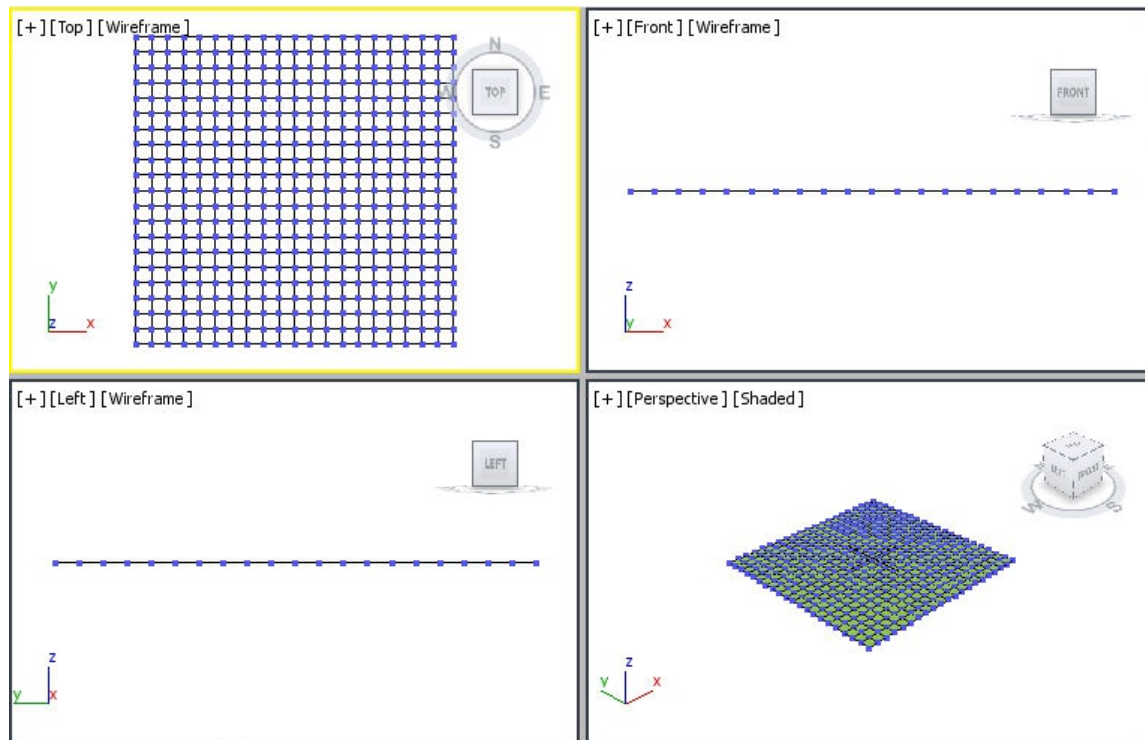

Figure 11-83 All vertices displayed in viewports
4. In the modifier stack, expand **Editable Poly** by clicking on the plus sign on its left side. Select the **Vertex** sub-object level; all the vertices of the plane are displayed in the viewports, as shown in Figure 11-83.